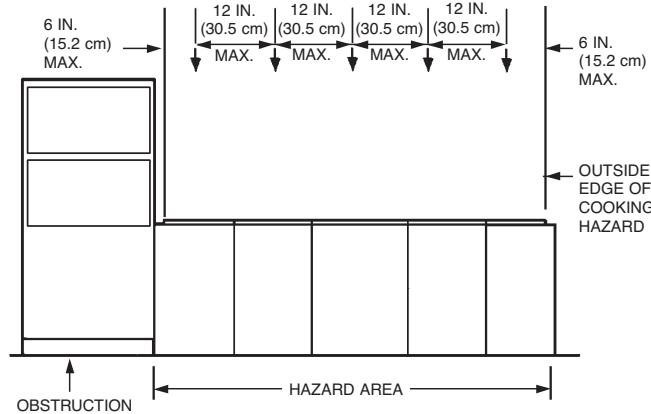

FIGURE 91f
- When obstructions are located adjacent to appliance(s) protected by overlapping nozzles, the overlapping appliance nozzle spacing must start with the appliance(s) adjacent to the obstruction. See Figure 91f.